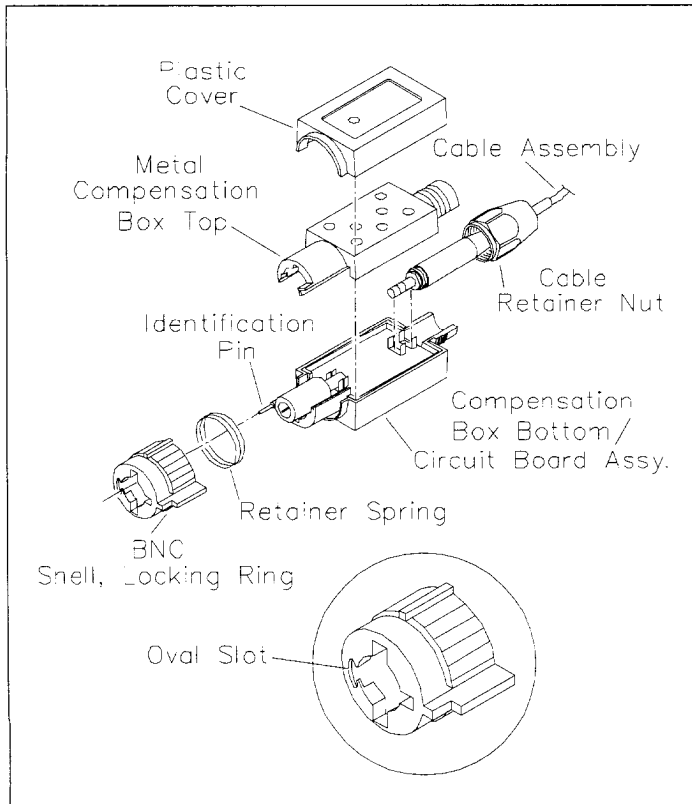

Figure 6. Compensation Box/Cable Assembly Replacement.
Use the following procedure to disassemble and replace the compensation box or the cable assembly (refer to Figure 6 for parts nomenclature).
- Replace the retainer spring. Press the new BNC shell onto the compensation box, making sure the identification pin goes through the oval slot in the shell. (See Figure 6.)